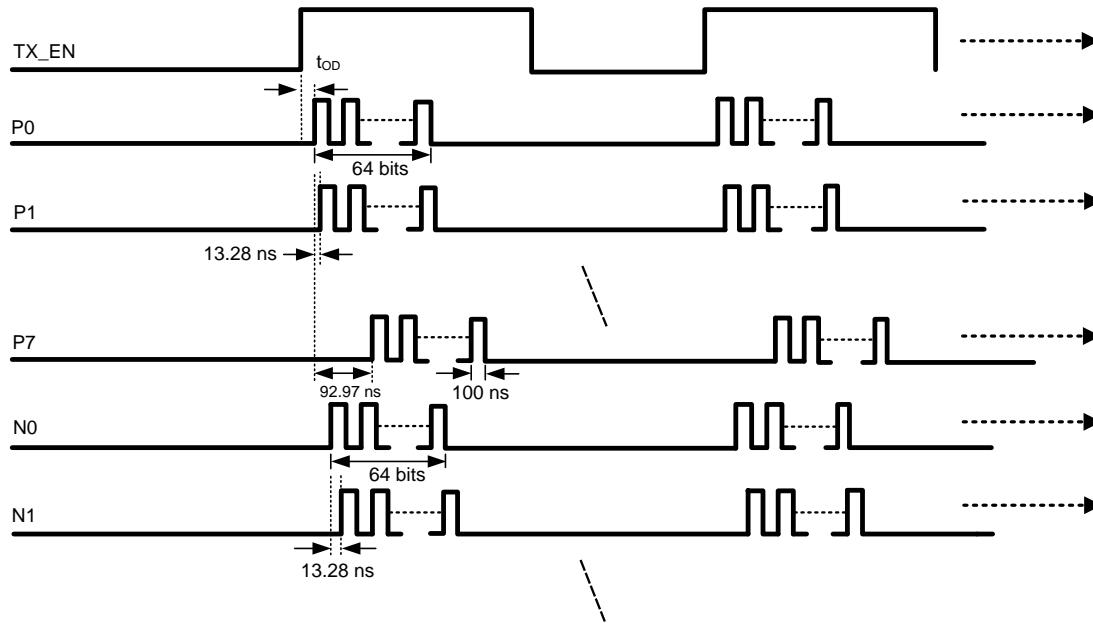

Figure 18. Beamformer Output with Example 1A Parameters
- After firing is complete for all channels, “TX\_EN” is pulled low, as the beamformer waits for the next firing signal, i.e., when “TX\_EN” is pulled high. See Figure 18 for firing diagram.